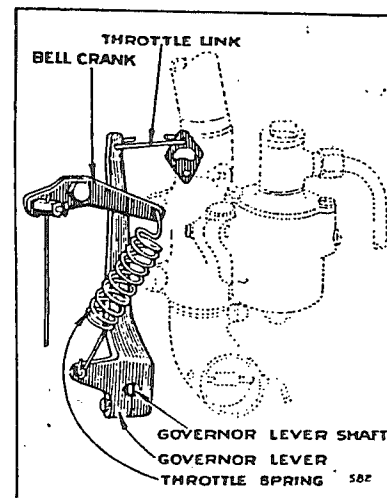
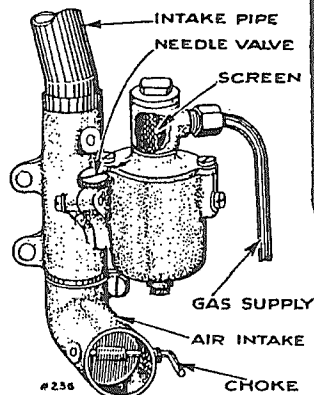

Fig. 9.
Fig. 10.
49. Speed Adjustment. Normal motor speed 1800 R. P. M. To change motor speed, move throttle control lever. More tension on throttle spring increases speed, less tension reduces speed. (See figure 9 and 11).
50. Resetting Governor Lever. If governor lever has been loosened on its' shaft it is reset as follows; (See Fig. 9).
51. The carburetor used on your Model "T" Motor is shown in Fig. 9 and Fig. 10. As received from the factory it is properly adjusted. However if it has been tampered with, it can be adjusted over again as described on next page.
53. **Hook-up Throttle link** with open ends towards the crankcase, (See Fig. 9.) must have one end hooked into hole in upper end of governor lever and the other end hooked into the hole of throttle plate on carburetor barrel. The throttle link with coiled end hooked into the end of bell crank and the other end hooked into the eye of the cotter pin in the bottom of governor lever. See paragraph No. 56 for Hand throttle control hook-up.
53. **Hook-up.** Throttle link with open ends towards the crankcase, (See Fig. 9.) must have one end hooked into the hole of throttle plate in carburetor barrel. The throttle spring must have coiled end hooked into the end of bell crank and the other end hooked into the eye of the cotter pin in the bottom of governor lever. See paragraph No. 56 for Hand throttle control hook-up.
and this end of wire is held to the bell crank by the swivel and screw. The other end of wire is fastened to the swivel on the control lever. The coiled end of the throttle spring is hooked to one end of the bell crank and the other end of the spring is hooked thru the cotter in the governor lever. See Figure 9.